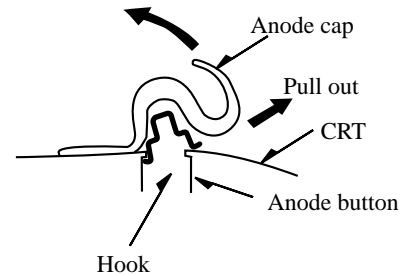

Fig. 2-4
- (6) Turn over the anode cap on the side where the hook was released and pull out the cap in the direction opposite to that on which the cap was pushed. (See Fig. 2-4)